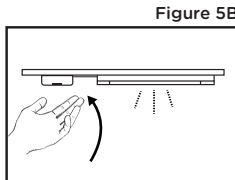

Figure 5B
- To turn OFF: Move a hand or other object in any direction past the motion sensor a second time. See **Figure 5B**.